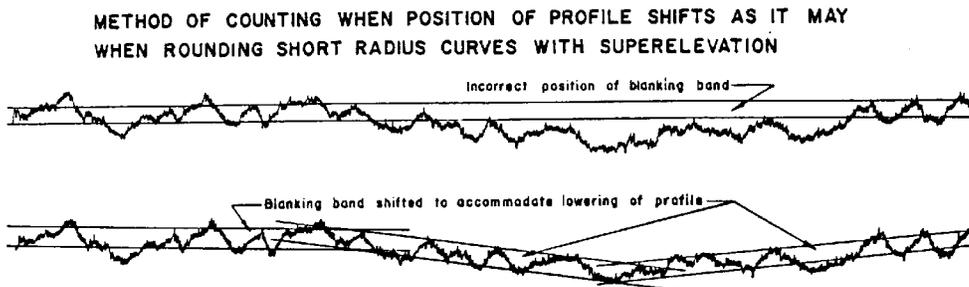

Figure 2
- b) Reposition the blanking band on each section while counting, as shown in Figure 2.